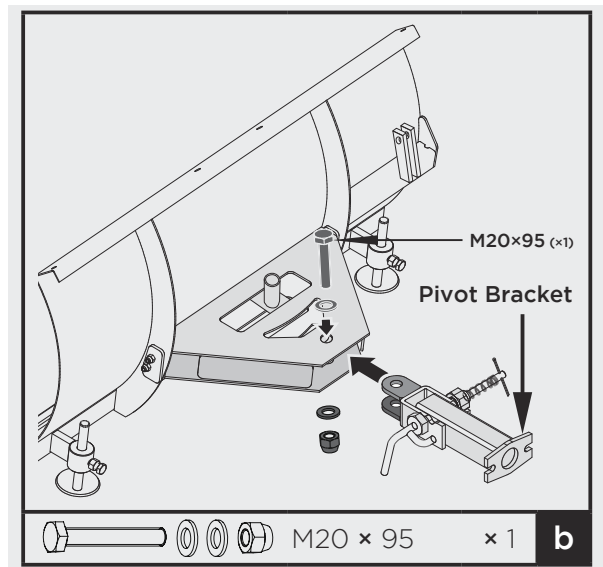

Figure 8
2. Position the pivot bracket inside the mounting bracket and align with mounting bracket holes. Secure with M20x95 hex bolt, washers and nut (figure 8).